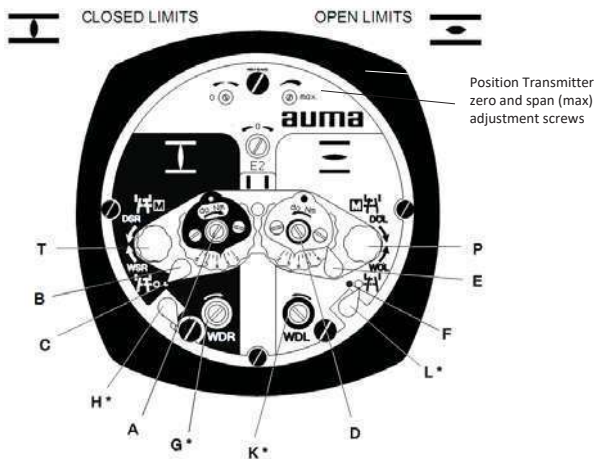

Figure 1. Limit Switch Adjustment Locations inside Auma Actuator
Limit Switch adjustment is carried out at the Auma actuator. Prior to adjustments, remove the limit switch compartment cover and mechanical position indicator disc. The adjustment procedure is as follows, referring to Figure 1 on the following page for switch locations:
- 7.7.1.2 Set the Closed Position Limit Switch by turning the screw marked "WSR" (see "A" in Figure 1). The screw is spring-loaded and needs to be pressed down with the screwdriver prior to turning. Ratcheting clicks will be heard as the screw is turned, and the pointer "B" will be observed to rotate 90° at a time. As soon as the pointer aligns with the mark "C" adjacent the "WSR" switch, stop turning immediately and release the pressure from the screw. Turn the hand wheel a further two turns in the opening direction and similarly turn the screw marked "WDR" (see "G" in Figure 1) until the pointer "H" aligns with mark "C".
- 7.7.1.4 Set the Open Limit Switch by turning the screw marked "WOL" ("D" in Figure 1) and stopping when the pointer "E" aligns with the mark "F". Turn the hand wheel a further two turns in the closing direction and similarly turn the screw marked "WDL" (see "K" in Figure 1) until the pointer "L" aligns with mark "F".
- 7.7.3.3 Set the "Zero" adjustment screw as shown in Figure 1 until a signal of 4.0mA is achieved.
- 7.7.3.5 Set the "Max" adjustment screw as shown in Figure 1 until a signal of 20.0mA is achieved.